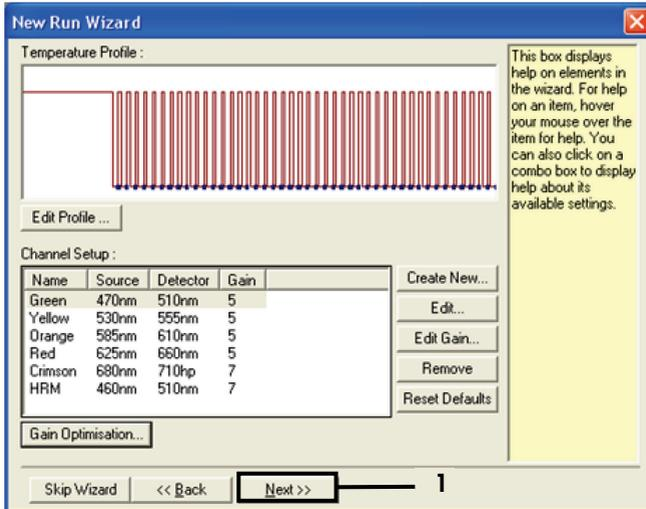

Figure 32. "Next" (1).
15. Click **Next** (Figure 32). Click **Save Template** to save the *therascreen* EGFR RGQ PCR Kit template (*.ret file) in an appropriate location.